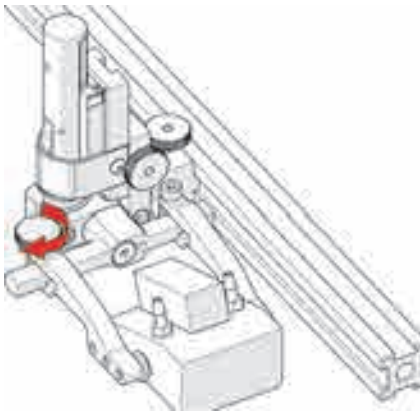

Figure 4-55 Tighten arm knob
3. Tighten the probe holder arm adjustment knob (see Figure 4-55 on page 137).